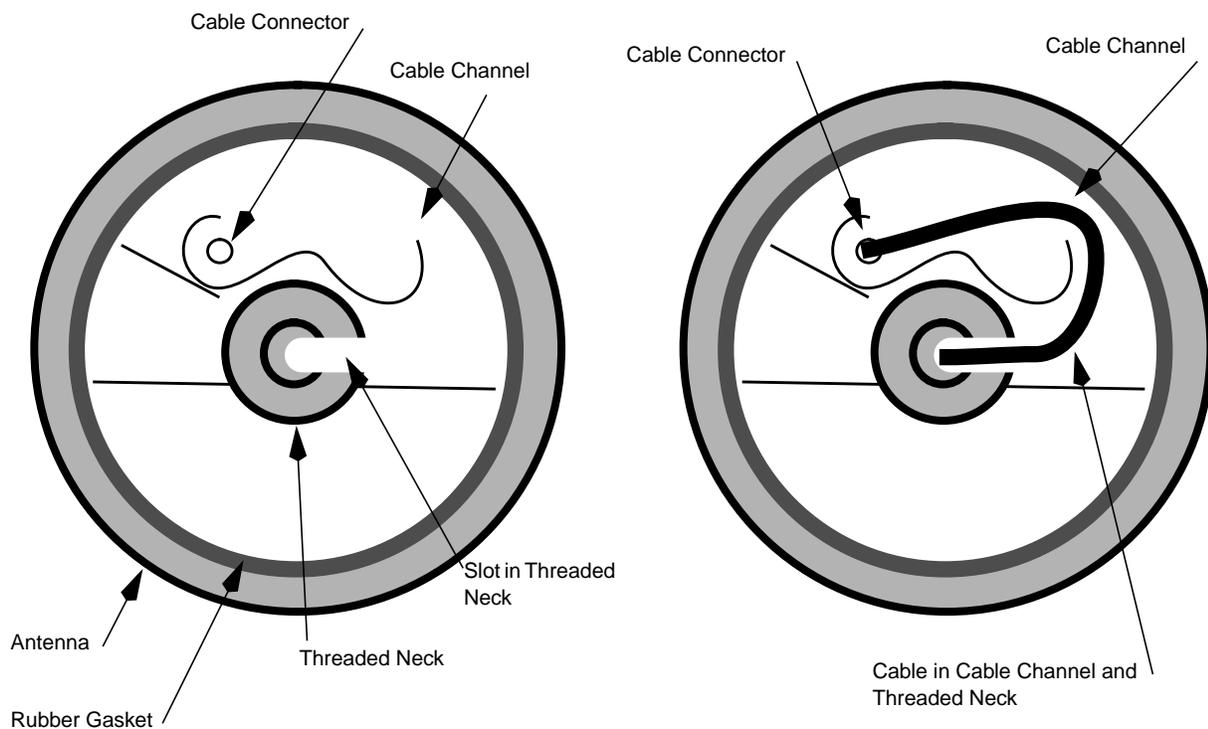

Figure F-2: Location and Orientation of the Cable and Connectors
2. Slide the small connector end of the cable through the following items (see Figure F-2):